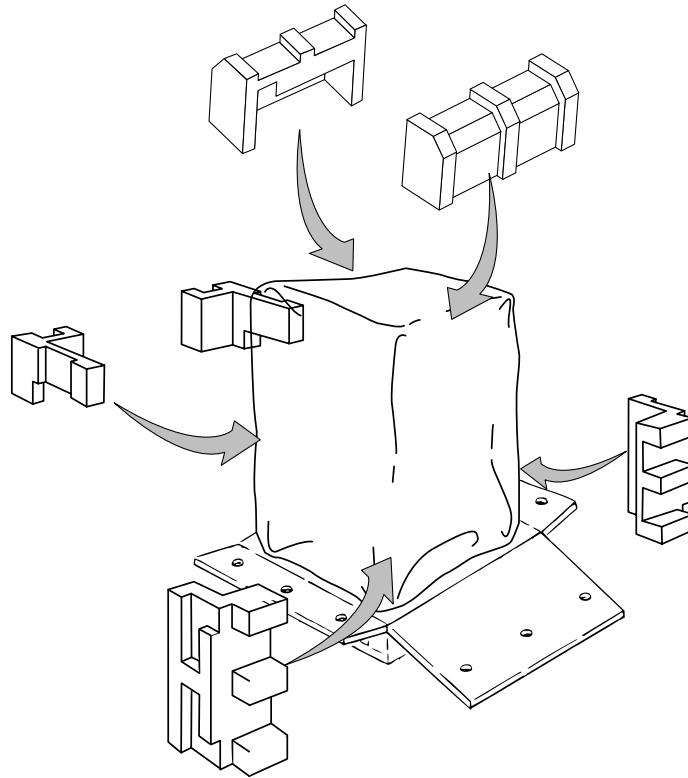

Figure A-17 Replace the Retainers and Plastic Cover
7. Replace the nylon cover and the four styrofoam retainers, as shown in Figure A-17.